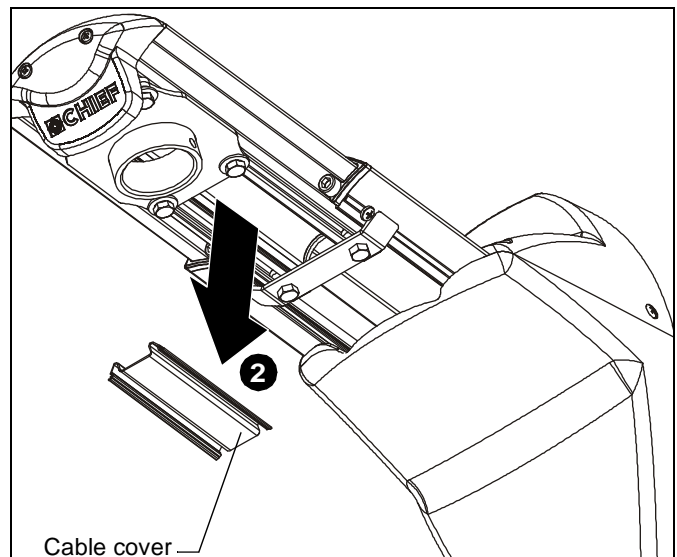

Figure 17
2. Remove cable management cover (if necessary) from WMA1S arm. (See Figure 17)